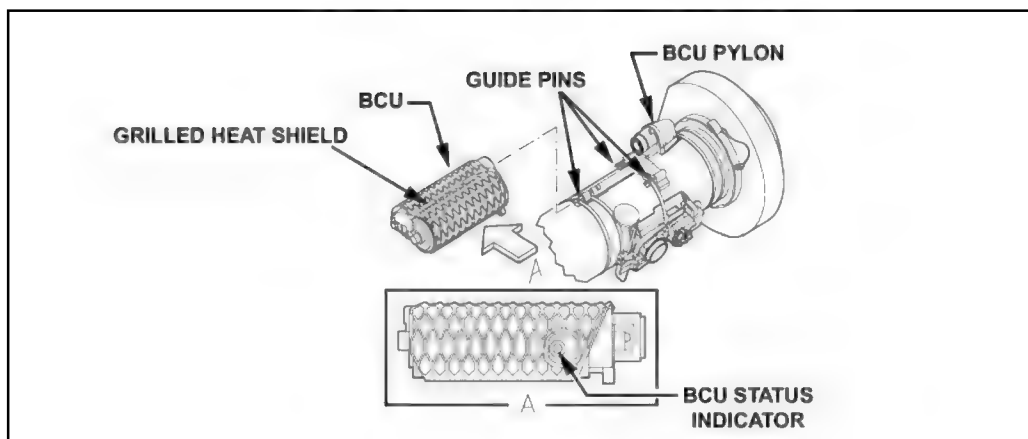

Figure 2-38. New battery coolant unit.
- (4) If BCU has grilled heat shield (Figure 2-38):